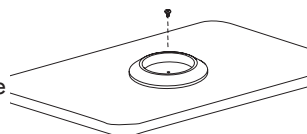

fig. 3
- fit the stove flange (L) in the hole and screw on with the stove screw supplied (fig. 3).